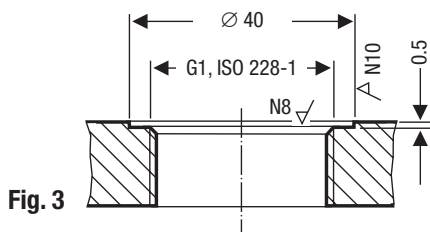

Fig. 3
- The seating surfaces of the standpipe or the flange provided on the vessel must be accurately machined, see **Fig. 3.**
7. Check seating surfaces. **Fig. 3**
8. Place supplied joint ring **2** onto seating surface of the threaded standpipe or flange. **Fig. 3**